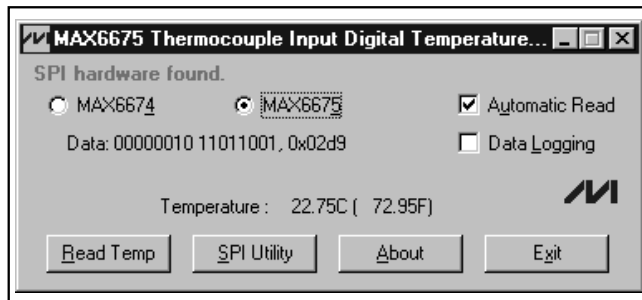

Figure 1. Main Display for the MAX6675EVKIT
- 6) Observe as the program automatically detects the MAX6675 and starts the main program (Figure 1).